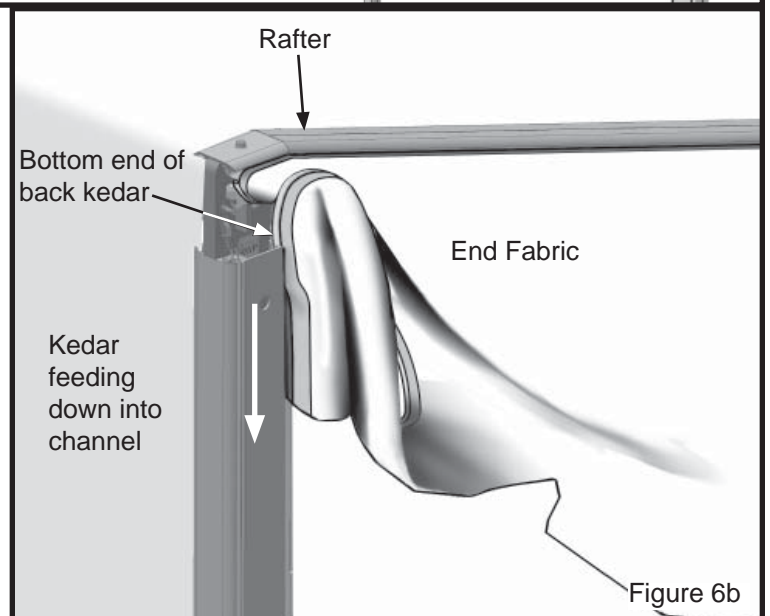

Figure 6b
- Raise bottom end of back kedar up until bottom of kedar can be fed down into top of channel on Upright Rear Upper Splice. (Figure 6b)